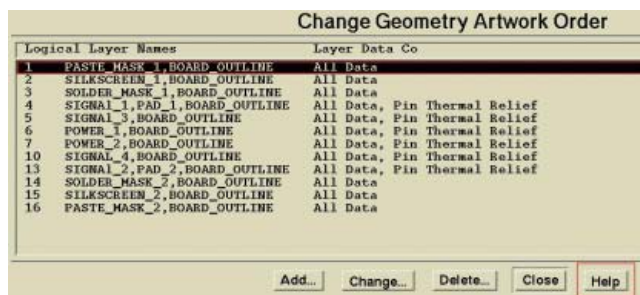

Figure 28:
3. Change this artwork order so it will fit to the specific needs from the Demo design like the way you used to do normally within Fablink. (See Figure 28)